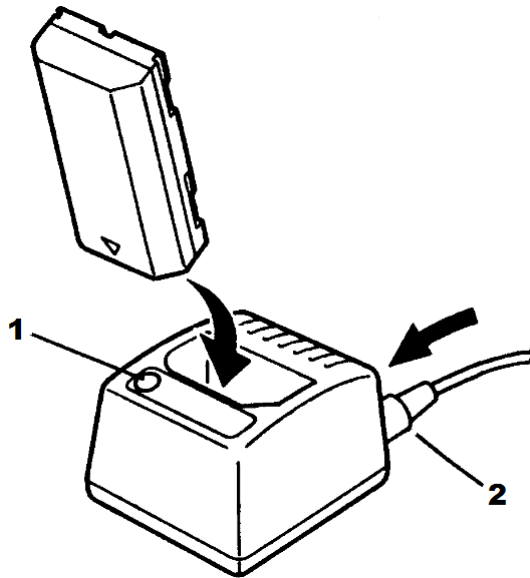

Figure 4. Single Slot Battery Charger Diagram
- Plug the output of the AC adaptor into the input jack on the rear of the battery charger noted in figure 4.
- Simply place the battery pack into the charger pocket as displayed in figure 4. Ensure that the two gold contacts on the battery pack are placed face down into the pocket.